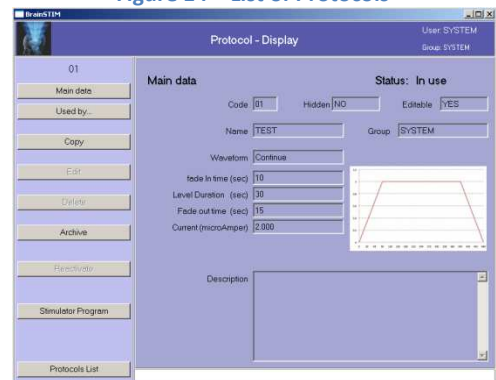

Figure 15 – Main data
*Main data* – shows the type of waveform and the relevant parameters set (fig. 15),